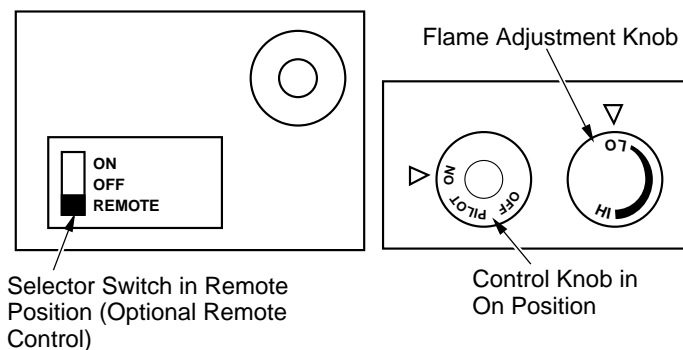

Figure 32 - Setting the Selector Switch, Control Knob, and Flame Adjustment Knob for Remote Operation
1. After lighting, let pilot flame burn for about one minute. Turn control knob to ON position. Adjust flame adjustment knob anywhere between HI and LO. Slide the selector switch to the REMOTE position (see Figure 32, page 17). **Note:** The burners may light if hand-held remote ON button was on when selector switch was last turned off. You can now turn the burners on and off with the hand-held remote control unit.